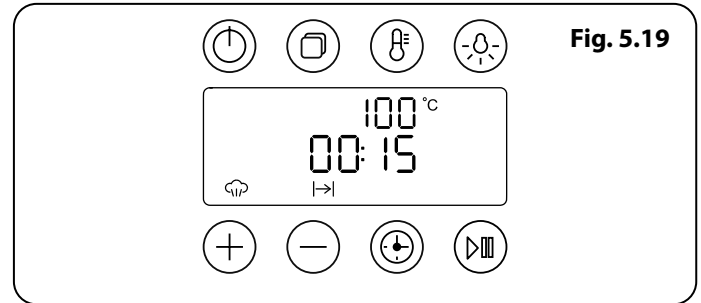

Fig. 5.19
4. Tap the Start / Pause button. The display will show the 'cook period' (**Fig. 5.19**) and the 'stop time' (**Fig. 5.20**).